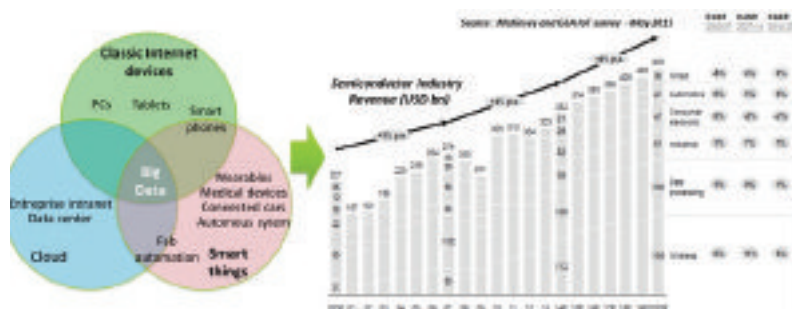

FIGURE 1. Impact of the IoT on semiconductor industry revenue from 2000 to 2020.
The Internet of Things (IoT) is expected to fuel significant growth opportunities for the semiconductor industry, as demand increases for wireless components and more and more embedded functionalities such as memory and sensors. This growth will affect almost all integrated circuit (IC) sectors (**FIGURE 1**). The chip industry will continue to need advanced technologies to provide the most powerful functionalized ICs with lower power consumption for the IoT, but manufacturing costs remain a key challenge. Lithography and related patterning technologies can represent up to 50 percent of total IC production costs, and significant efforts have to be made in the coming years to slow and even reverse this trend.